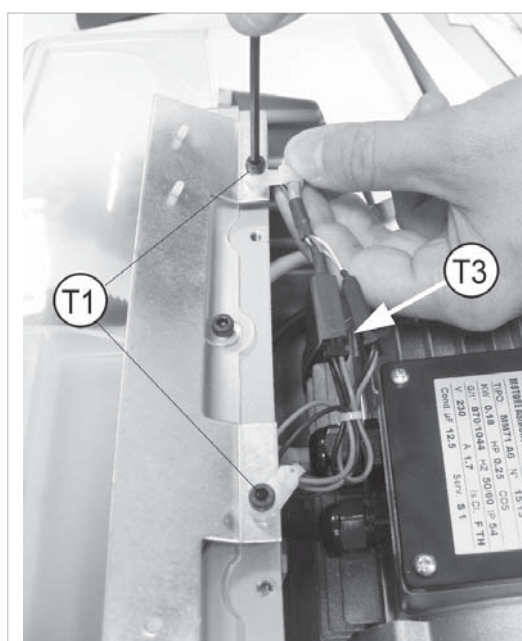

Fig.78
- 3) Loosen the 2 screws (T1) on the lamp support (Fig.78).